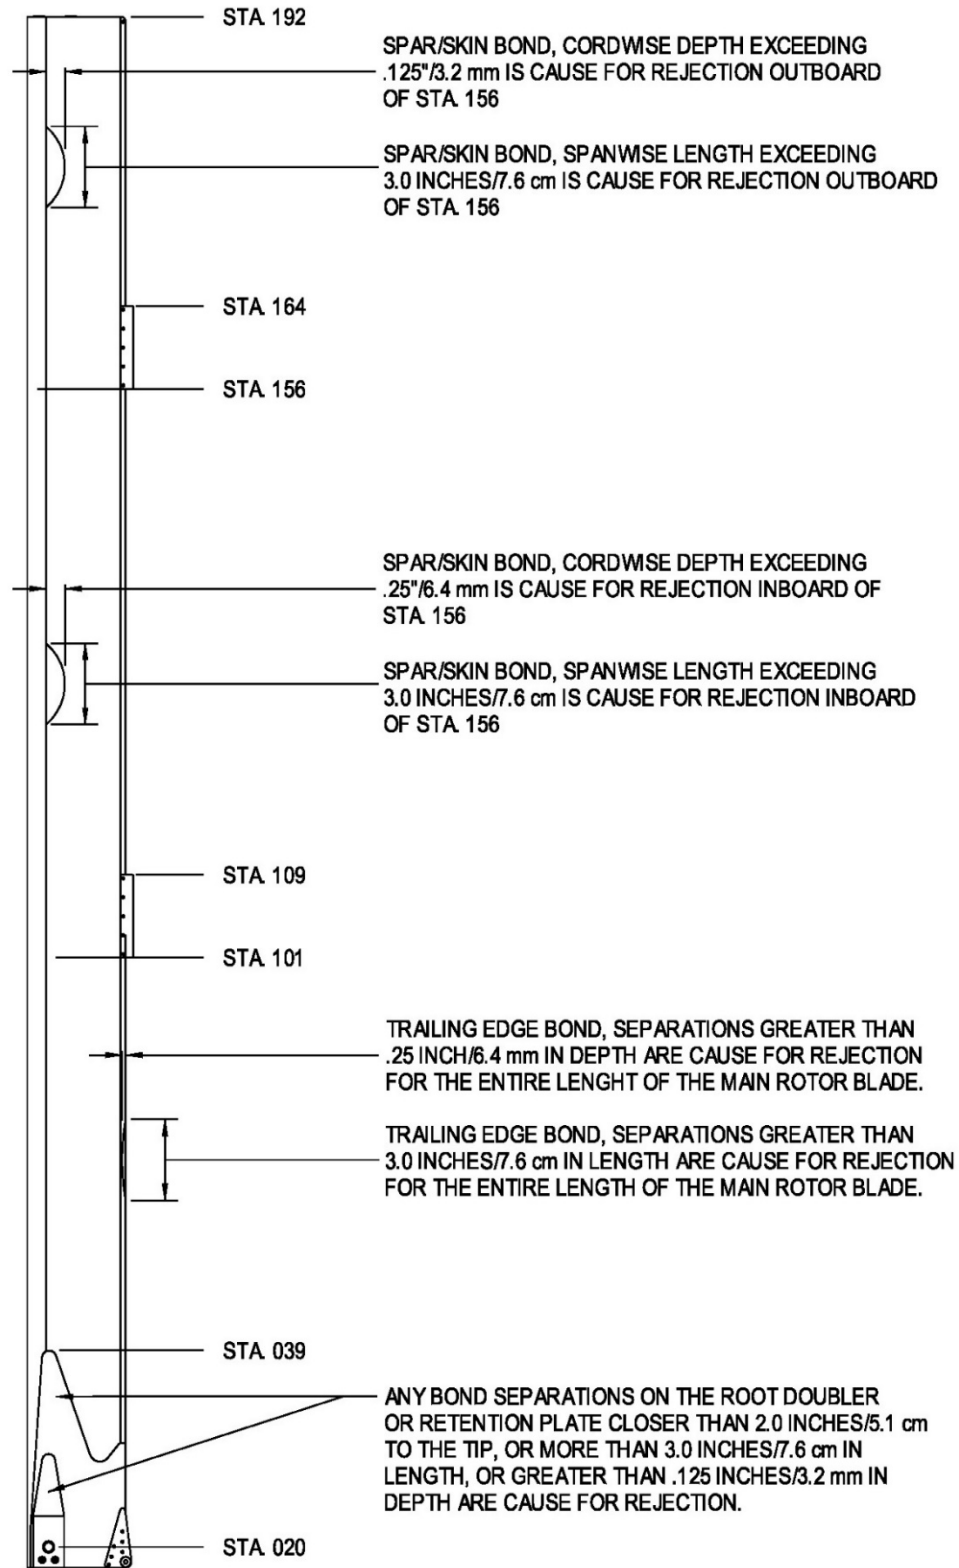

Figure 9-20. Main Rotor Blade Bond Separation Limits
- C. Inspect the spar bond lines for raised sections or voids, dark deposits, corrosion, and bubbly or scaly paint (Figure 9-20). Use the coin tap method to inspect suspect areas for voids.
- D. Inspect the trailing edge bond lines for voids or openings, dark deposits, corrosion, and bubbly or scaly paint (Figure 9-20). Use the coin tap method to inspect suspect areas for voids. Use only plastic shim stock (.001"/.025 mm) for determining the depth of voided areas.
- E. Inspect the bond lines at the root doubler and retention plate edges for paint cracking or scaling, dark deposits, corrosion, and void in the fairing compound (Figure 9-20). Use the coin tap method to inspect suspect areas for voids. Use only plastic shim stock (.001"/.025mm) for determining the depth of the voided areas.
D. Repair voids in the spar to skin bond lines that do not exceed the limits of Figure 9-20 as follows:
- (5) Wipe the area with denatured alcohol, Extreme Simple Green, or equivalent.
- (6) Seal the area with Hysol Type EA 9309.2NA epoxy sealant.
- (7) Refinish the area in accordance with Para. 9-10, A, above or Para. 9-11 depending on the paint condition of the rest of the blade.
- (8) Enter into the maintenance log book the main rotor blade serial number and the location of the repair.
- (9) Visually inspect the repaired area for further growth of the bond separation during the preflight check or daily inspection. Inspect the repaired area for further growth of the bond separation using the coin tap method at 25 hour intervals.
- E. Repair voids in the trailing edge bond lines not exceeding the limits in Figure 9-20 using the procedure in Para. 9-10, D, except for the following:
- (1) Inspect repairs outboard of Sta. 101 using the coin tap method at the normal periodic inspection interval.
- (2) Inspect repairs inboard of Sta. 101 using the coin tap method at 25 hour intervals.
- F. Repair voids in the root doubler and retention plate edge bond lines not exceeding the limits in Figure 9-20 using the procedure in Para. 9-10, D.